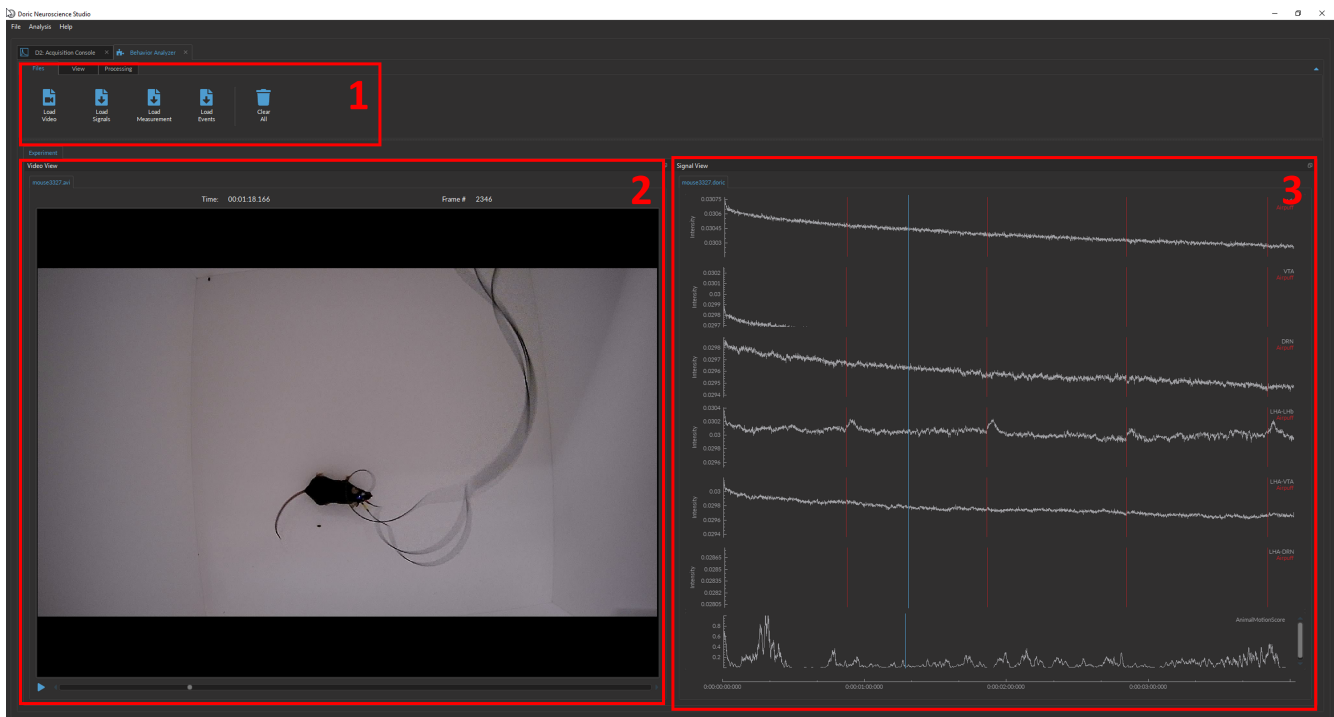

Figure 14.1: Behavior Analyzer Module Interface
The interface can be separated into three major sections (Fig 14.1):
1. The **Tabs** (Fig 14.1, 1) are used to access the controls, settings, and functions of the module. These controls and settings are split into three tabs, which will be treated in the following sections:
2. The **Video View** (Fig 14.1, 2) displays the recorded footage and controls the frames displayed. The **Play** button on the bottom left runs the video. The scroll bar beside it can be used to choose a frame while the video is paused. See Section 14.4 for more details.
3. The **Signal View** (Fig 14.1) displays the raw traces associated with the video. The red bar over the traces corresponds to the timestamp of the associated frame of the video. See Section 14.5 for more details.